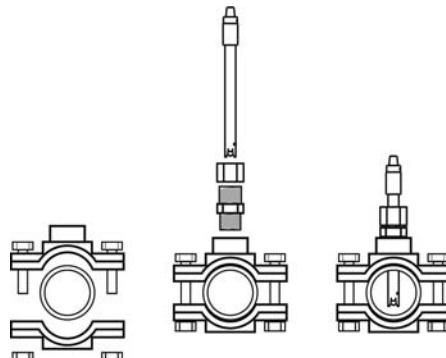

Fig. 8
1. Install the pH and ORP electrode holders in the circuit through $\frac{1}{2}$ " saddles (not included with the equipment) (Fig. 8)